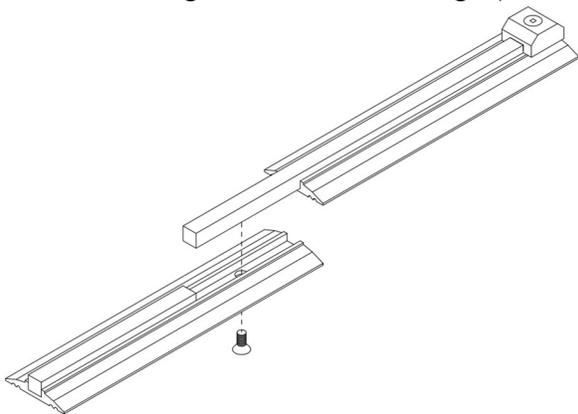
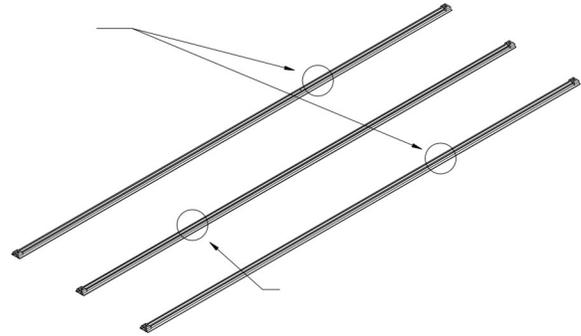
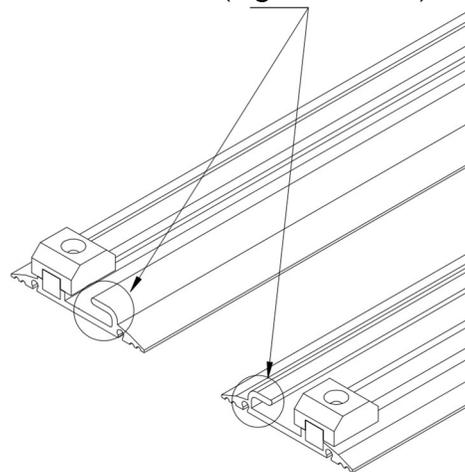

Figure 4: Lap Joint Assembly
Figure 5: Surface tracks must be shimmed level using the 1/16" and 1/8" shim strips provided, eliminating carriage drift
Figure 6: Anti-tip Channels must face proper direction
**Track Assembly:** Arrange track sections to correct overall length. Assemble track sections together at lap joints and fasten with countersunk-head bolt (Figure 4). Stagger track joints where possible (Figure 5). **Do not remove backing from twosided tape until later.** When installing anti-tip tracks, ensure that the channels are facing the correct direction (Figure 6 and 7).
- **Track Assembly:** Lay the tracks out on the floor as per shop sketch. Join track end-to-end and fasten at lap joints (as in Fig.4). Stagger joints where possible (as in Fig. 5).
*When installing a system where L-TRACK and A-TRACK are used in combination, install the A-TRACK first! ('A' is higher profile) then level the L-TRACK to match. Ensure that the anti-tip channels are facing the correct direction (Fig. 6 & 7).*